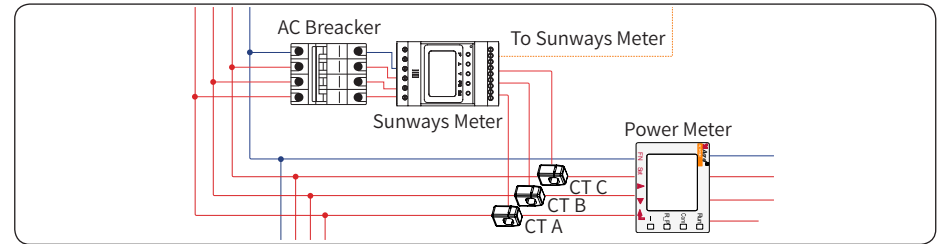

Figure 4-30 Meter wiring diagram
2) The three CTs have already well-connected on the Sunways Meter while you received, and you just need to follow the wiring diagram in the Meter to connect CT, as shown in Figure 4-30.